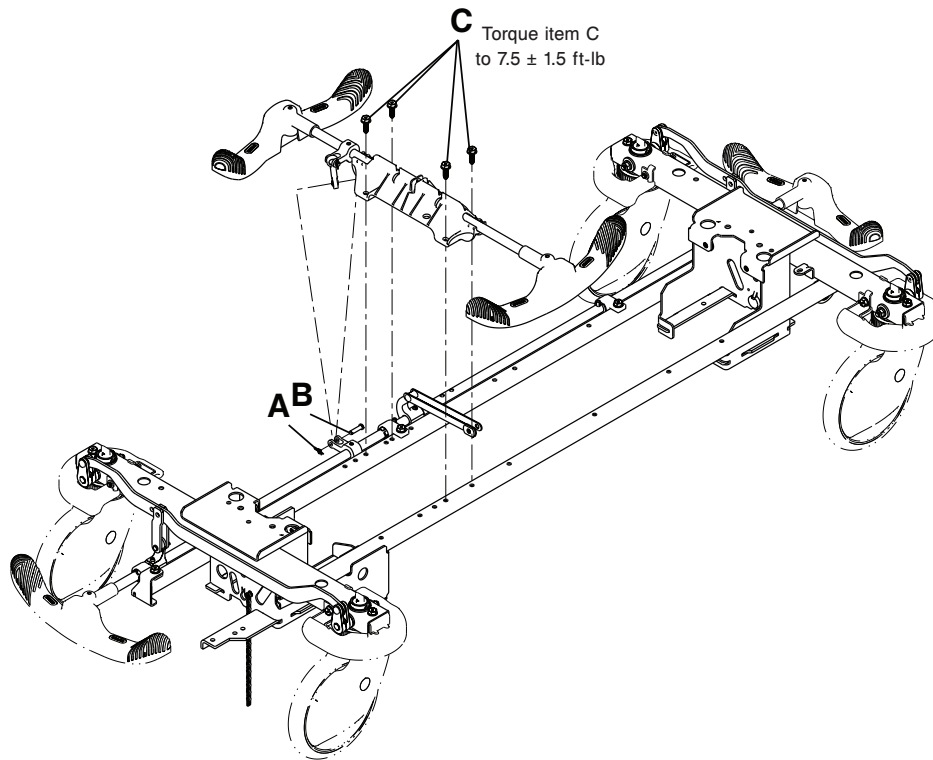

Figure 7 – Replace the side control brake rod
5. Using needle nose pliers, remove the rue ring cotter (A) and clevis pin (B) that secure the side control brake assembly to the side control brake rod link (Figure 7). Save the rue ring cotter and clevis pin.